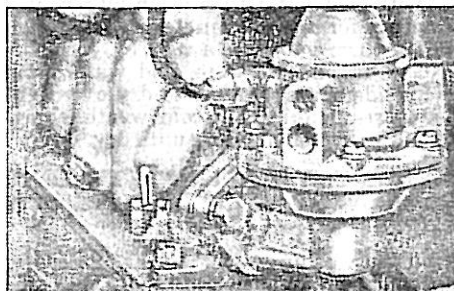

Fig. 6, FUEL PUMP PRIMER
3. Prime new engine — if necessary, see Fig. 6. Hand primer lever at fuel pump (available option), should be worked back and forth until strainer bowl is full — then an additional 5 or 10 strokes to fill carburetor bowl. If primer does not function — turn crankshaft one complete revolution.